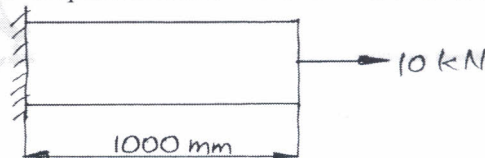

Fig.Q.3(b)
b. Fig.Q.3(b) shows a one dimensional bar subjected to an axial load. Taking it as a two bar element, determine the nodal displacements. Take $E = 200 \text{ GPa}$ and $A = 10^4 \text{ mm}^2$. (12 Marks)